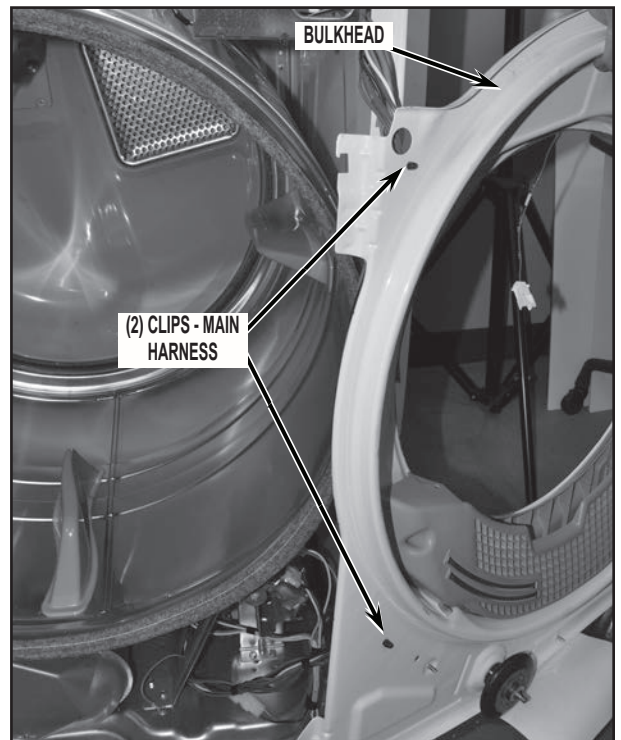

FIGURE 14
16. Swing bulkhead assembly to side and remove two (2) harness clips by pinching ends with pliers to disconnect harness from bulkhead. See *Figure 14*.